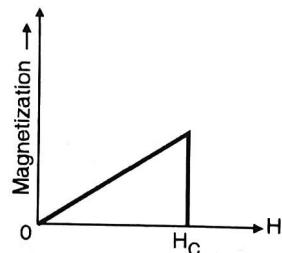

Fig. 5.5.1 : Type-I superconductor
- Here the transition from superconducting state to normal state in the presence of a magnetic field occurs sharply at the critical value H_C as shown in Fig. 5.5.1.